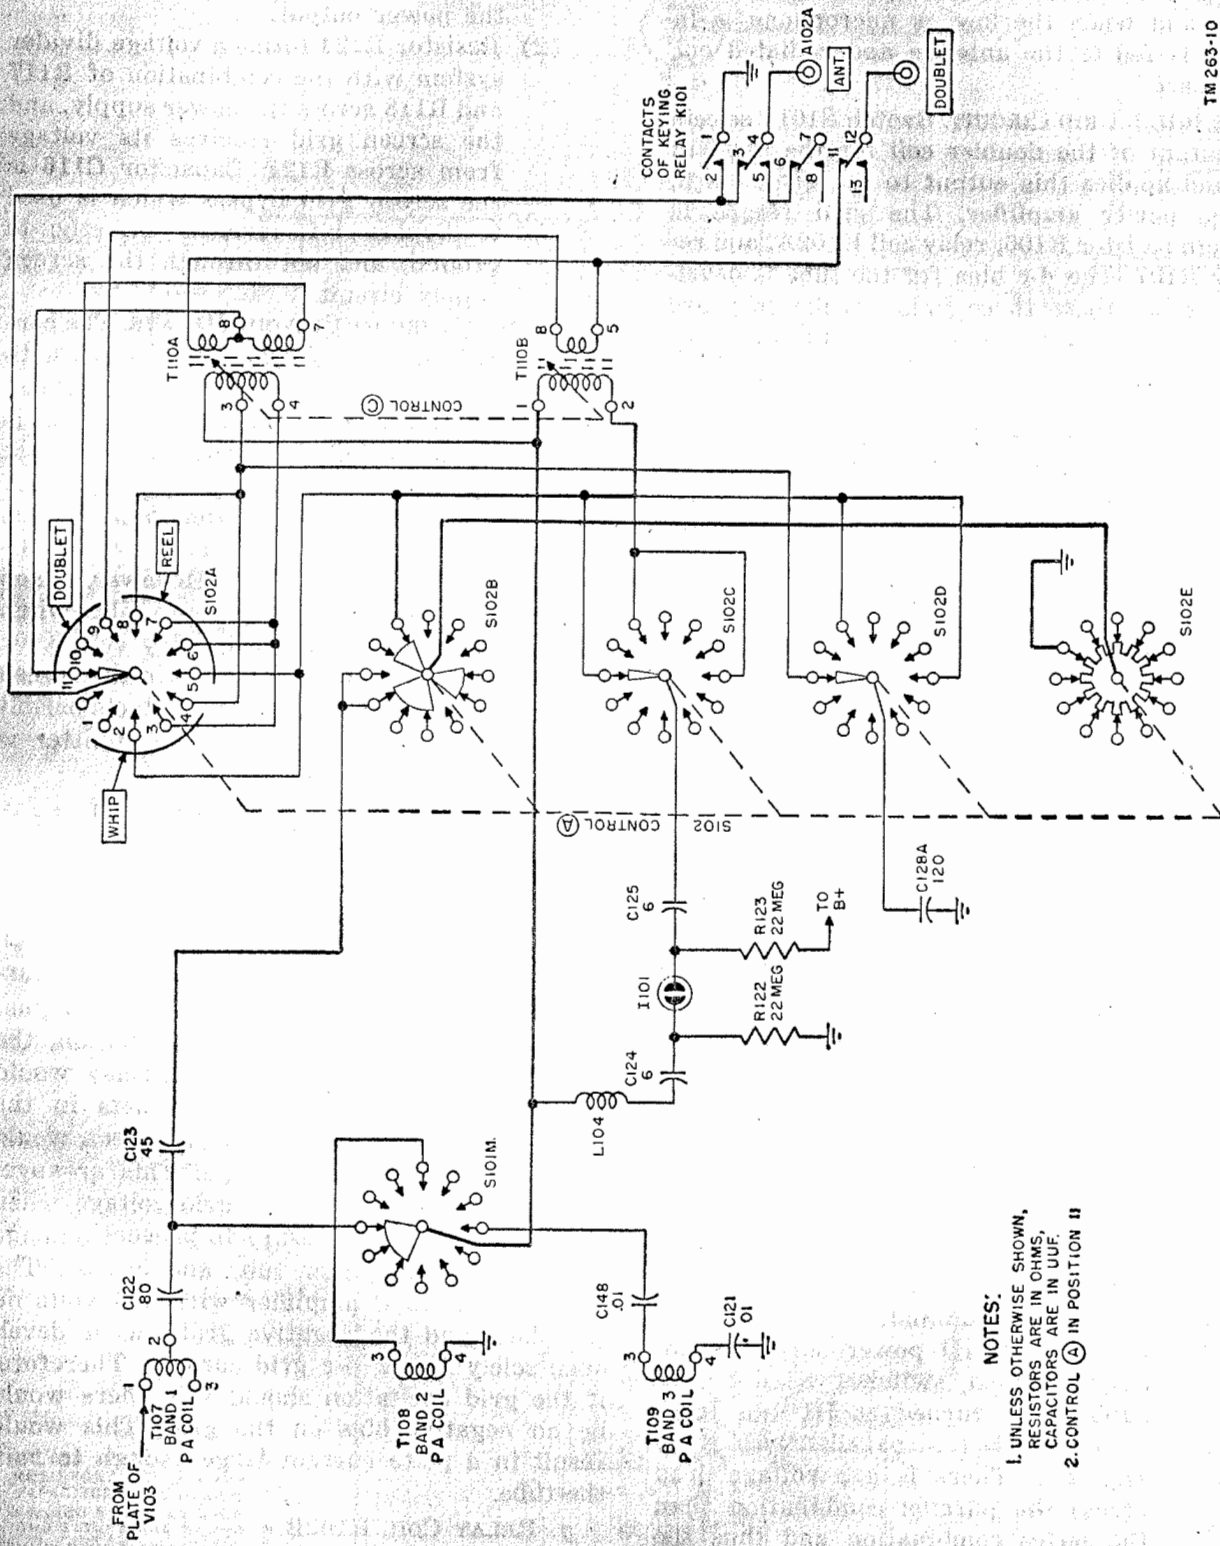

Figure 76. Antenna switching and tuning circuits for transmitter.
96. Antenna Switching and Tuning Circuits for Transmitter (fig. 76)
a. There are 11 possible positions for ganged switch bank S102, control ③ (fig. 76). Only switches A through E enter into transmitter operation. Section F is for receiver operation only. These 11 different positions are necessary so that the antenna will be matched to the power amplifier output coil for maximum power transfer throughout the entire frequency range of the transmitter. The functions of the different switch positions are:
- (1) Positions 1, 2, 3, and 4 match the power amplifier coil to a vertical mast or whip antenna for all frequencies.
- (2) Positions 5, 6, 7, and 8 match the power amplifier coil to an end-fed antenna for all frequencies.
- (3) Positions 9, 10, and 11 match the power amplifier coil to a center-fed or doublet antenna for all frequencies.